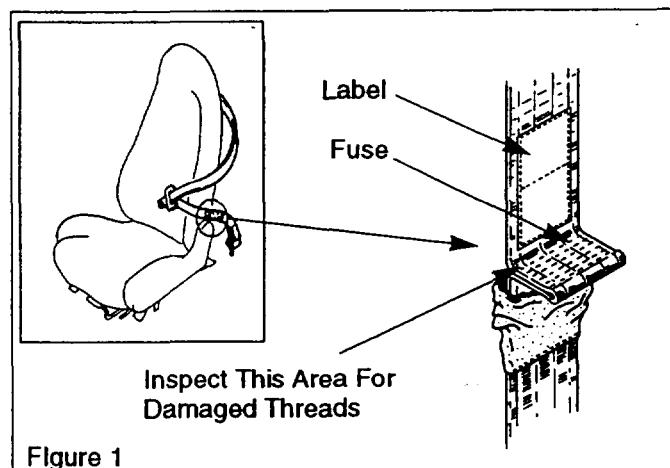

Figure 1
2. Inspect the area for frayed or broken stitching (See Figure 1).